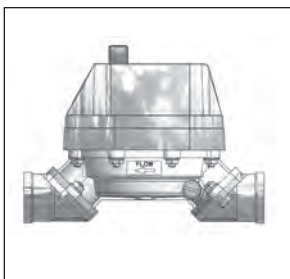

Figure 2
3. Rotate the coverplate assembly and counter to the desired orientation. Make sure the flow arrow in the housing points toward the outlet port. (Figure 2)